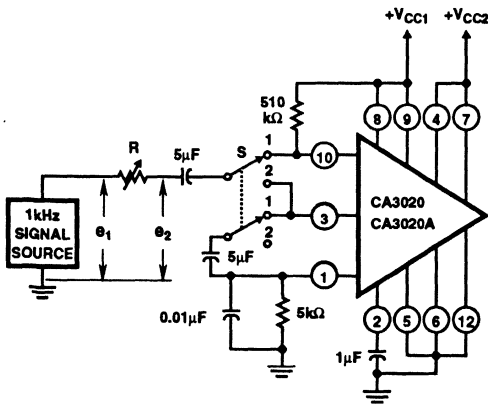

FIGURE 10. MEASUREMENT OF INPUT RESISTANCE
**See Figure 10 for definition of $R_{IN(10)}$